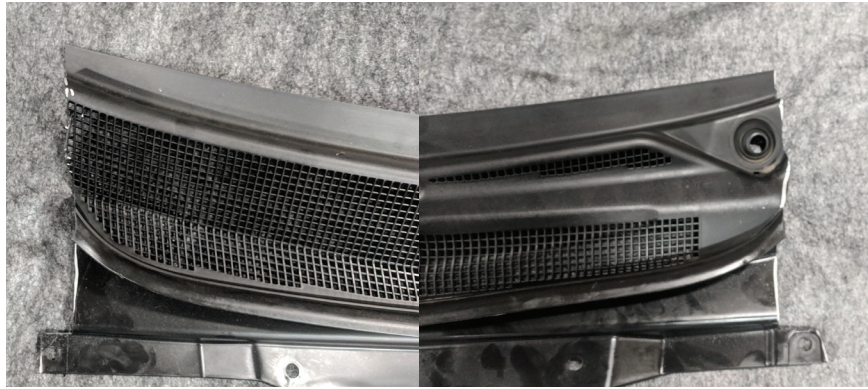

Figure 19
18. Using a cutting tool, trim the OEM cowl along the marked lines. (Figure 19)